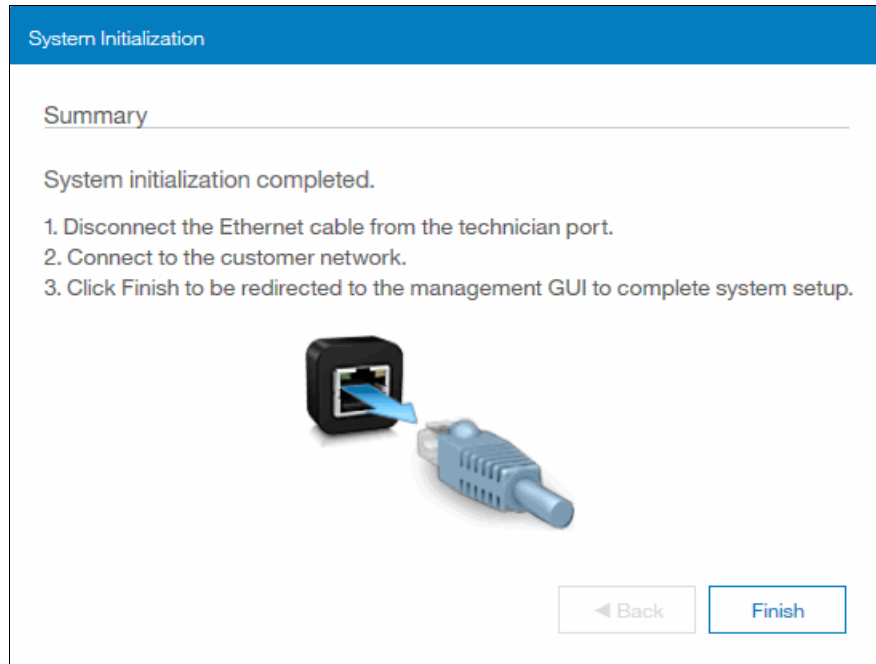

Figure 6-54 System initialization summary screen
16. The System Initialization Summary pane is displayed (Figure 6-54 on page 205).